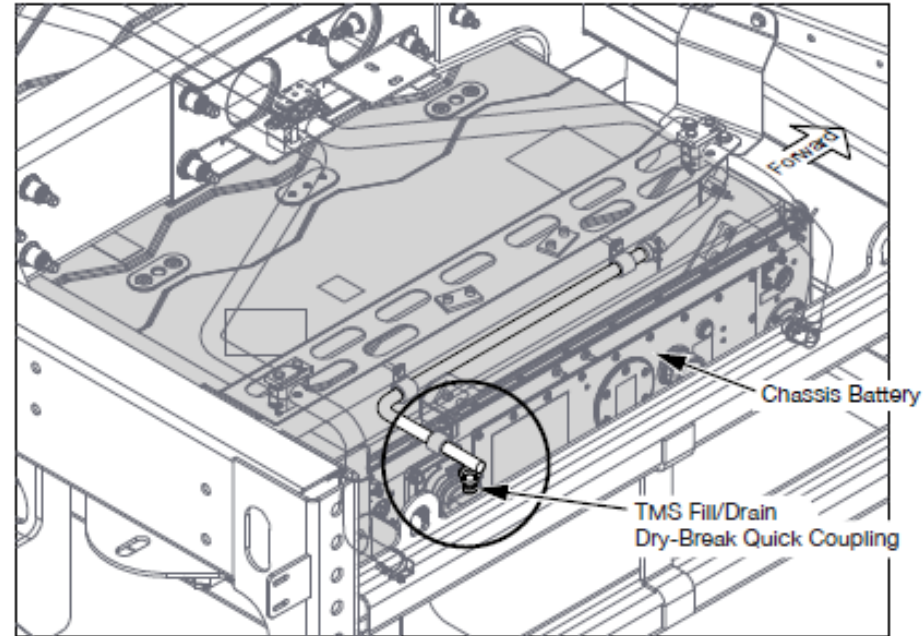

Figure 3-9, BTMS Fill/Drain Access on Curbside of Bus
4. Connect the fill tank to the quick disconnect fitting (Figure 3-9) through the chassis battery access door.
4. Connect the fill tank to the fitting at the chassis battery inlet (Figure 3-9).